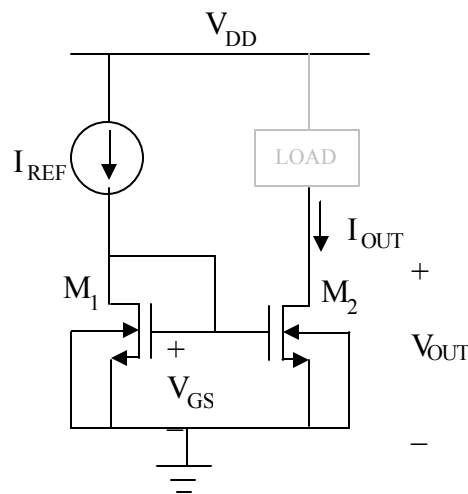

Figure 1. Simple current mirror
The operation of the MOSFET current source is dependent on the MOSFET device parameters and on the load being driven by the current source. The basis of most current sources is the current mirror shown in Figure 1. We will assume that the NMOS transistors M_1 and M_2 used in this current mirror are matched, which means that the transistors have the same threshold voltage V_t , channel width W , channel length L , and $k'_n = \mu_n C_{ox}$, where μ_n is the effective electron mobility in the n-channel and C_{ox} is oxide capacitance per unit area. The connection of the transistors in Figure 1 ensures that the gate-to-source voltage V_{GS} for each transistor is the same. Therefore, the drain current I_{D1} is the same as the drain current I_{D2} . Also notice that the current I_{REF} is equal to I_{D1} , since the gate terminals do not draw any DC current. In other words, the drain current $I_{D2} = I_{OUT}$ should mirror the reference current, I_{REF} , to a good first approximation.
- (1) Use one ALD1103 package to build the circuit in Figure 1, replacing the ideal current source I_{REF} with the resistor value that you calculated in your pre-lab work. The pin diagram for the ALD1103 is shown in the data sheet (Figure 4).